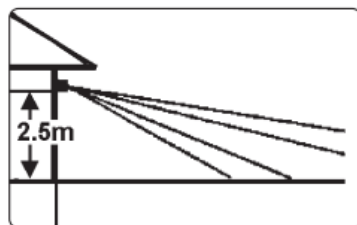

fig.1
- An approximate appropriate mounting height from the ground is 2.5m. See fig.1.